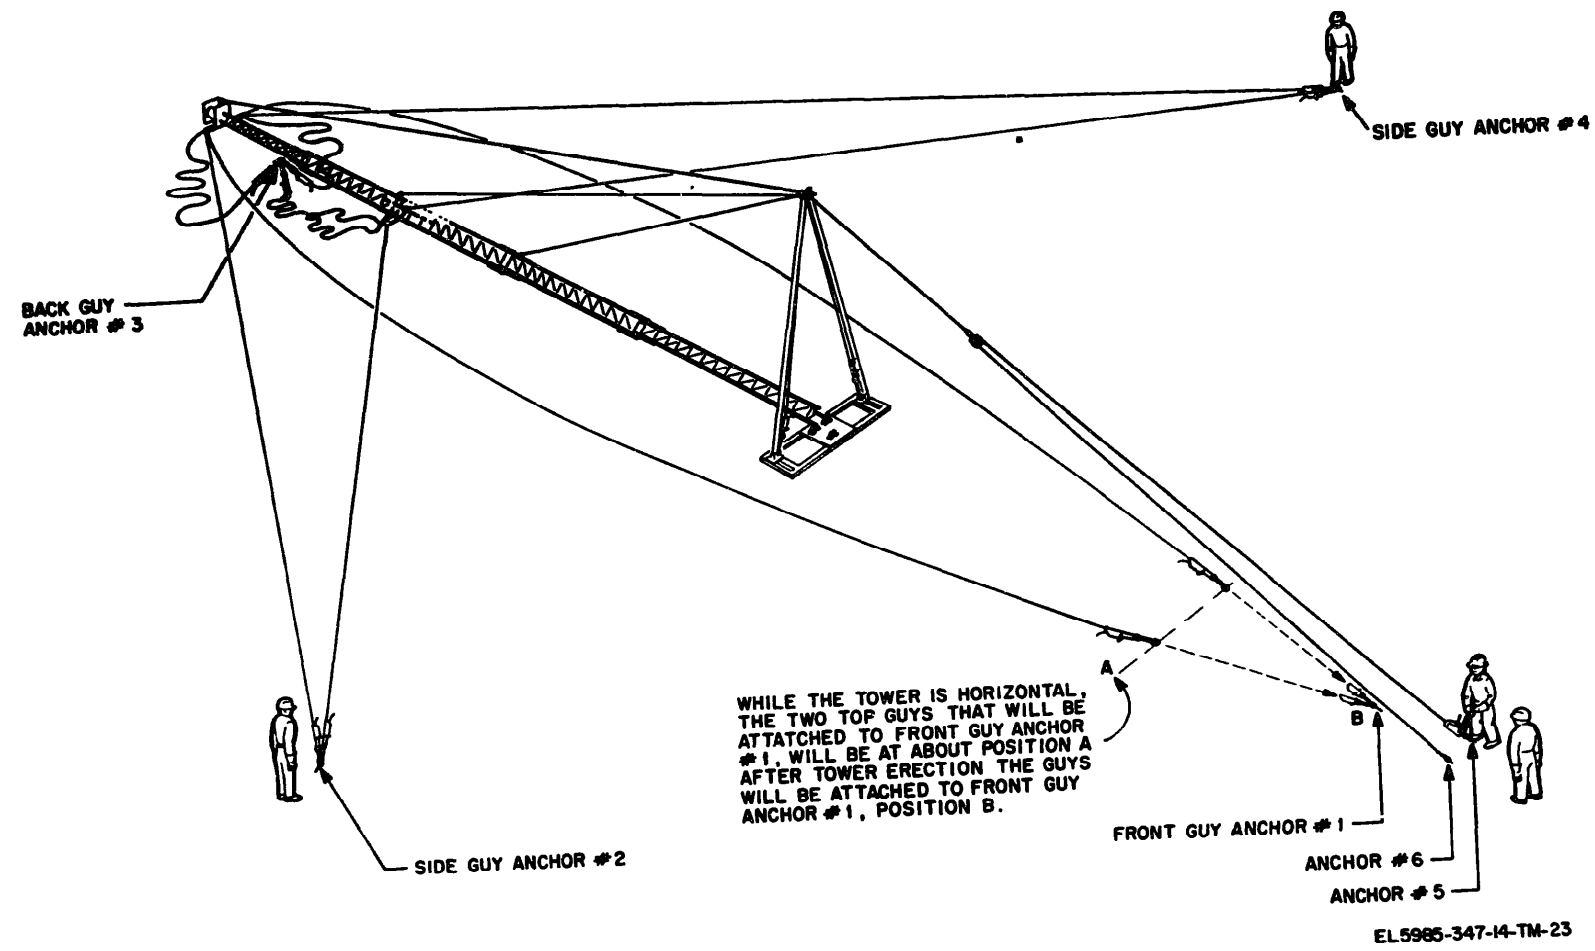

Figure 2-24. Guy attachments to tower before erection
- p. When the gin pole is vertical (fig. 2-24) adjust the quick tension devices on the base plate so there is equal tension on the knee cables and pulling cable.